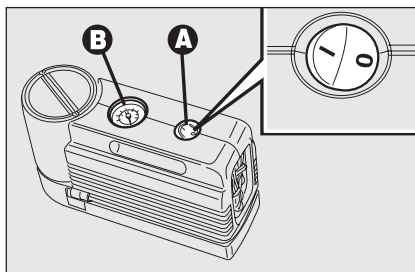
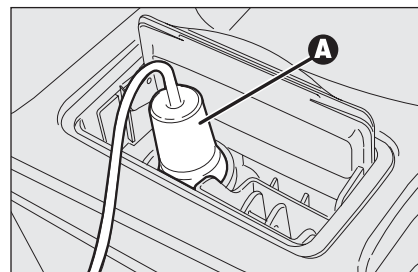

fig. 16
fig. 17
- ❑ make sure the compressor switch **A-fig. 16** is set to **0** (off), start the engine and fit plug **A-fig. 17** into the outlet/cigar lighter on the front console and then turn on the compressor by setting switch **A-fig. 16** to **I** (on);
- ❑ inflate the tyre to the pressure specified in paragraph "Wheels" in section "Technical Specifications". Check tyre pressure on gauge **B-fig. 16** with compressor off to obtain precise reading;